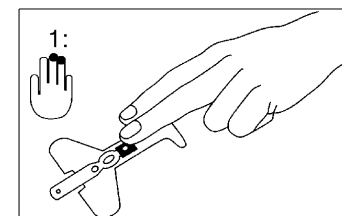
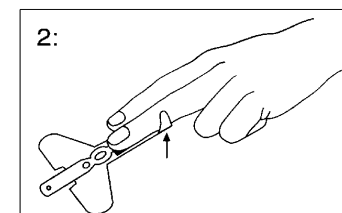

Fig. 31 Sensor placement; detector on the finger tip
Fig. 32 Fixing of the detector
1. Open the pouch and remove the sensor. Holding the sensor with the tan printed side downward, bend the sensor backward and remove the backing from the sensor. Orient the sensor so the detector can be placed first (Fig. 31). Press the detector onto the fleshy part of the finger near the tip of the finger. Press down the "T" shaped adhesive ends of the sensor onto the finger (Fig. 32).